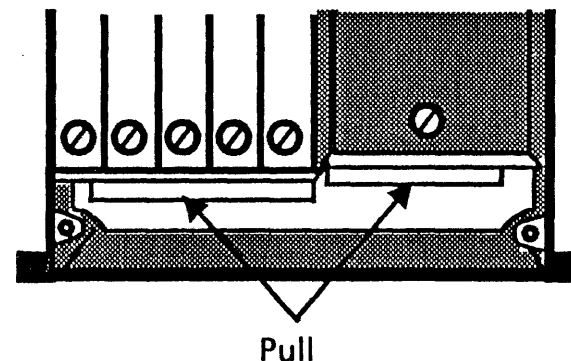

Figure 4-4 Fan Assembly
4. Remove the fan assembly (Figure 4-4).